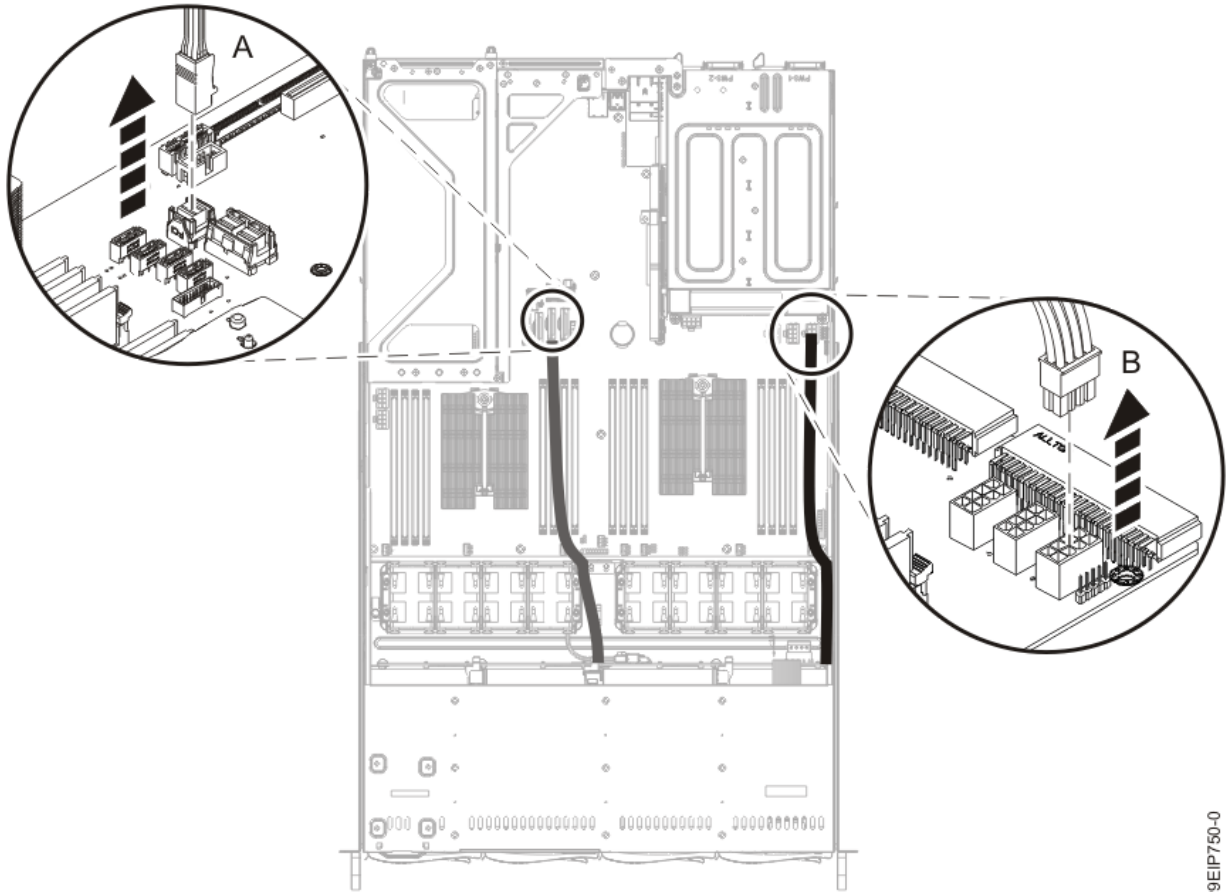

Figure 5. Disconnecting the drive signal and power cables
2. Label and remove the drive signal cables **(A)**, the operator console cable **(B)**, and drive power cable **(C)** from the system backplane as shown in Figure 5 on page 10.